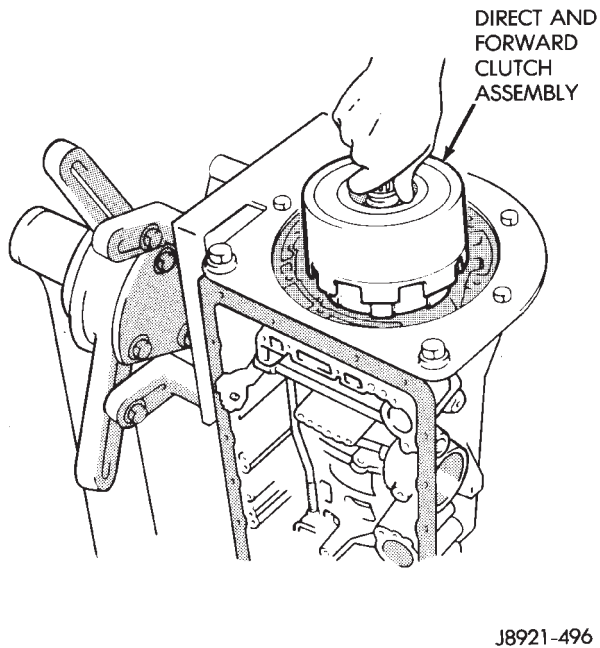

Fig. 30 Removing Direct And Forward Clutch Assembly
(38) Remove direct and forward clutch assembly (Fig. 30).